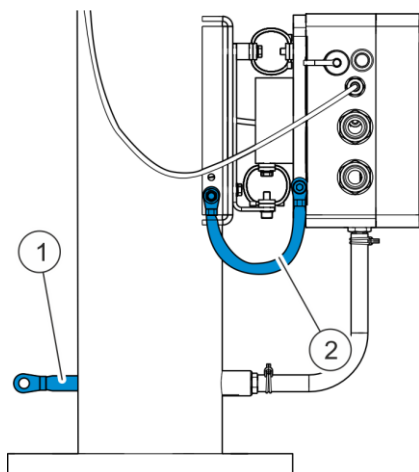

Fig. 34: Earthing the device
To guarantee proper EMC protection, the housing is connected by means of a flexible copper mesh strap (Fig. 34/2) to the motor earth.
1. To avoid EMC interference, ensure good conductance through short earthing straps from the oil mist ventilation pipe to the motor block (Fig. 34/1).